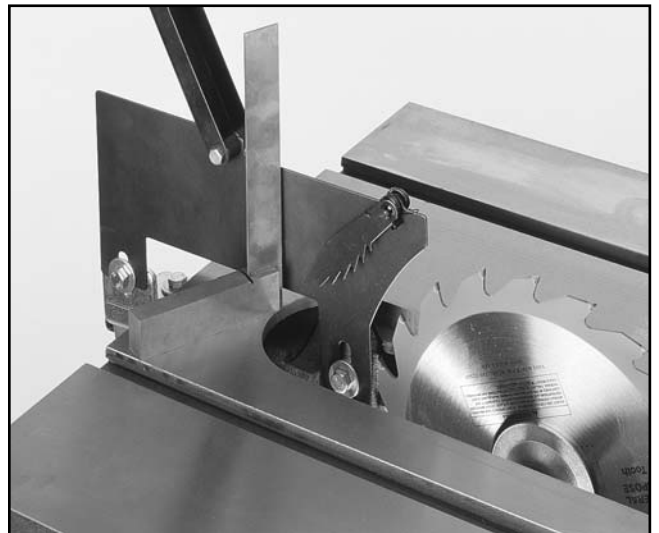

Figure 9.
2. Set a combination square against the face of the guard. Slightly rotate the rear bracket to adjust the face of the blade guard perpendicular to the table top. **Figure 9.**